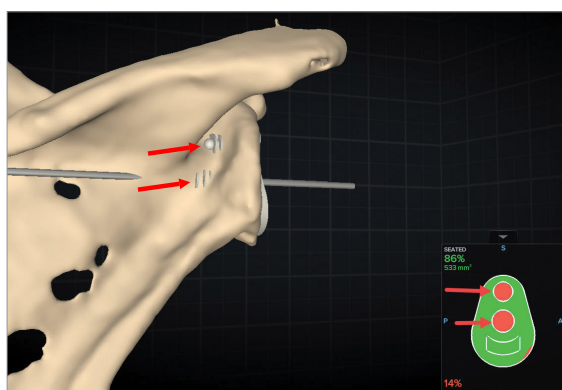

Figure 36. Implant perforation in Backside Seating feature
Implant Perforation (Figure 36)
- This feature within the backside seating heat map will show areas where the implant perforates the glenoid medially as indicated by the red arrows shown in Figure 36.